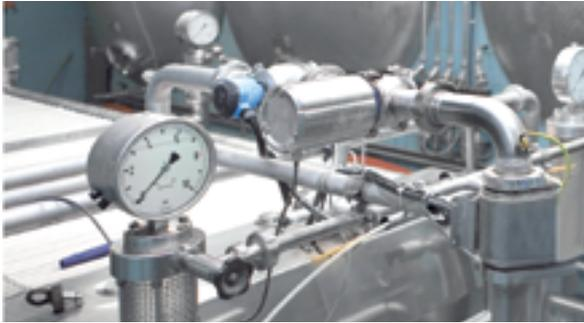

Fig. 3: InPro 8600 sensor installed in the outlet of a beer filter
The InPro 8600 sensor is designed for direct installation in a GEA Tuchenhagen Varinline® access unit (see Fig. 3). The wetted materials, stainless steel and sapphire are resistant to regular clean-in-place (CIP) solutions at common cleaning temperatures, typically 85 °C. The three measurement signals are available on 0(4) to 20 mA outputs for further processing.